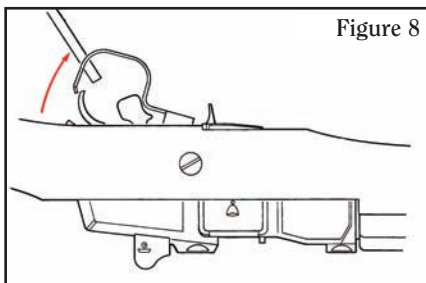

Figure 8
- Invert the rifle and use a 1/4" diameter steel rod, punch, screwdriver shank, or other suitable instrument inserted into the hole in the rear of the trigger guard as a lever to spring open the trigger guard from its latched position. (See Fig. 8.)